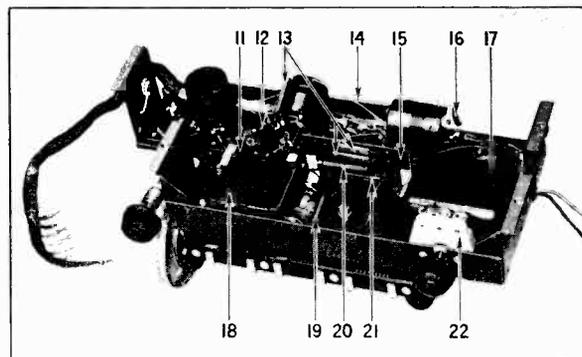

Fig. 3—Bottom View of Radiola
- 4 Open primary first audio transformer, open resistor 19, shorted condenser 18, Fig. 3, or broken wire. In 7-26—break in wiring to transfer switch, poor contact in